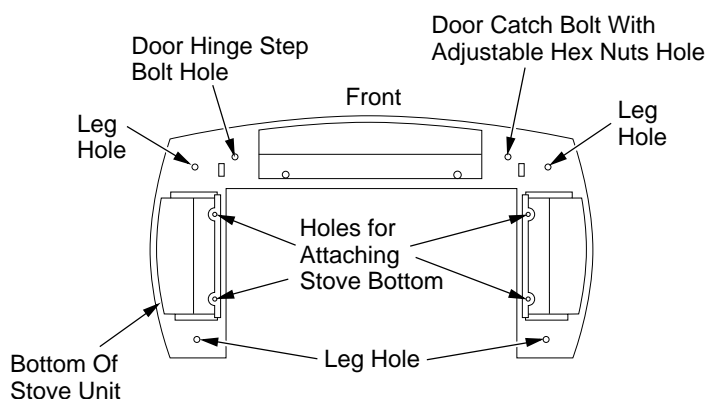

**Figure 7 - Laying Stove On Side**
- (1) - Hardware kit bag with fasteners
6. Carefully lay stove body on back to attach bottom components to stove body (see Figure 7). Rest stove on drop cloth or blanket to avoid scratching stove edges.